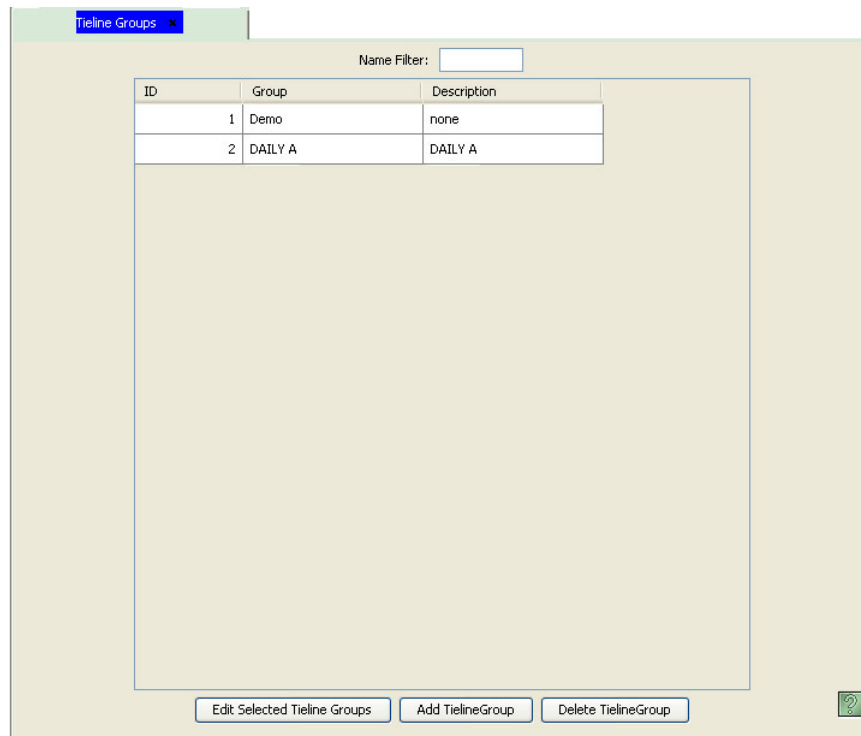

Figure 16-28. Tieline Group Page
- 1 From the Navigation area, select the ‘Configuration’ pane and then ‘Tieline Groups’. The ‘Tieline Groups’ page displays, as shown in Figure 16-28. All tieline groups currently defined in the system are listed.